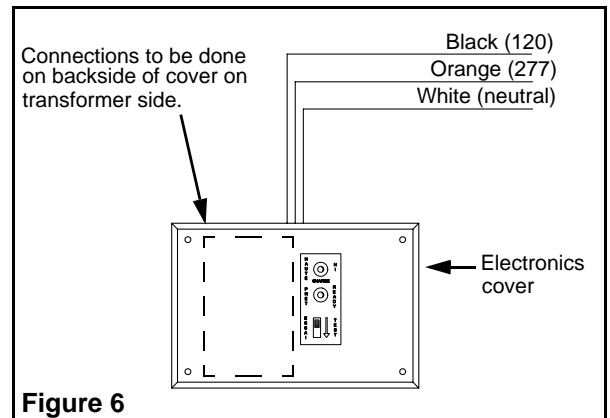

Figure 6
7. Make the proper connections. Our system can accept input voltages of 120 VAC or 277 VAC (see fig. 6).